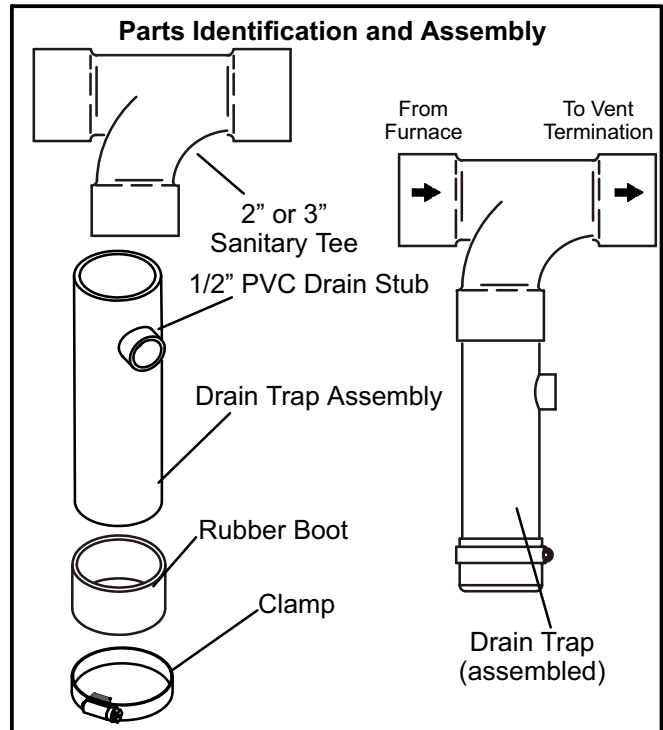
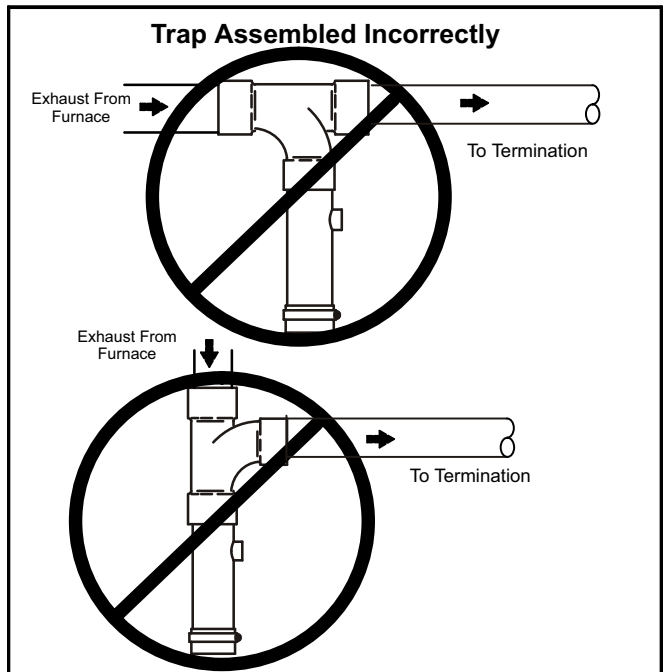

FIGURE 1
FIGURE 2
**Condensate Trap Assembly (Figure 1)**
- 1 - Assemble the condensate trap using the drain trap assembly, rubber boot, clamp and sanitary tee (2" or 3") as shown in figure 1. Make note of the position of the sanitary tee. Do not assemble trap as shown in figure 2.